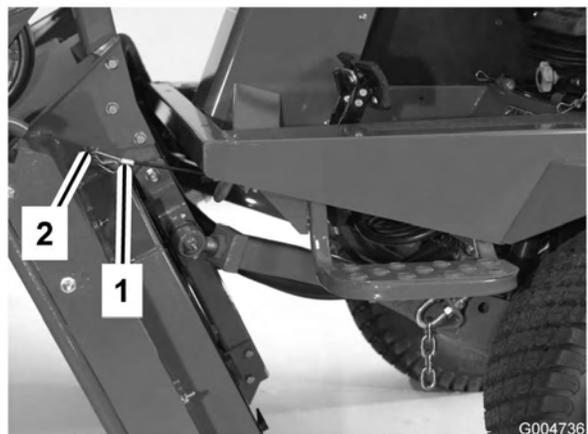

Figure 85
6. Hold the cutting unit upright, fit the cable end over the pin on the cutting unit lift arm and secure it with the hairpin cotter (Figure 85).